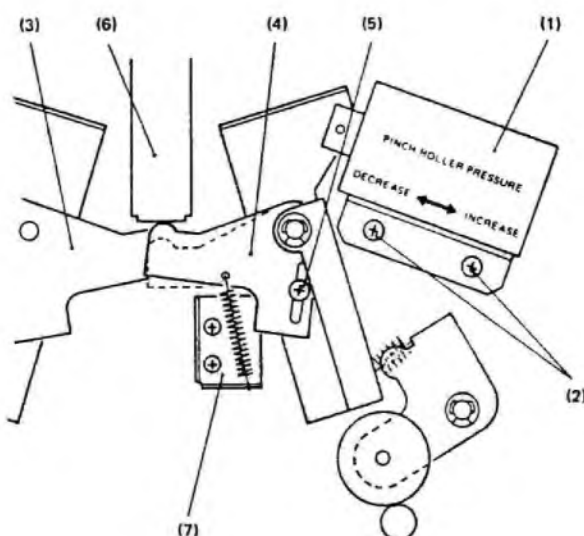

Fig. 5.2
d) If the reading is off specification, loosen the screw securing the plunger solenoid bracket and shift the solenoid in direction of arrow shown in Fig. 5.2.